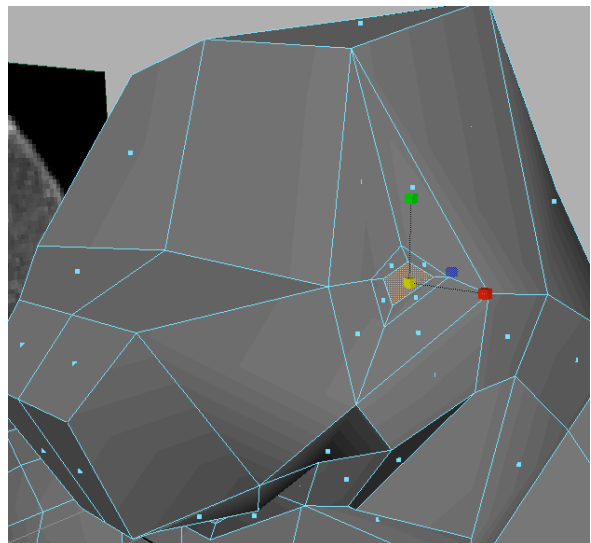

Figure 20: The eye area is created by extruding and scaling twice.
8. Select the large face on the upper side portion of each side of the head and extrude. Scale the extrusion down and then repeat once more to create the eye area. Use figure 20 as a reference.